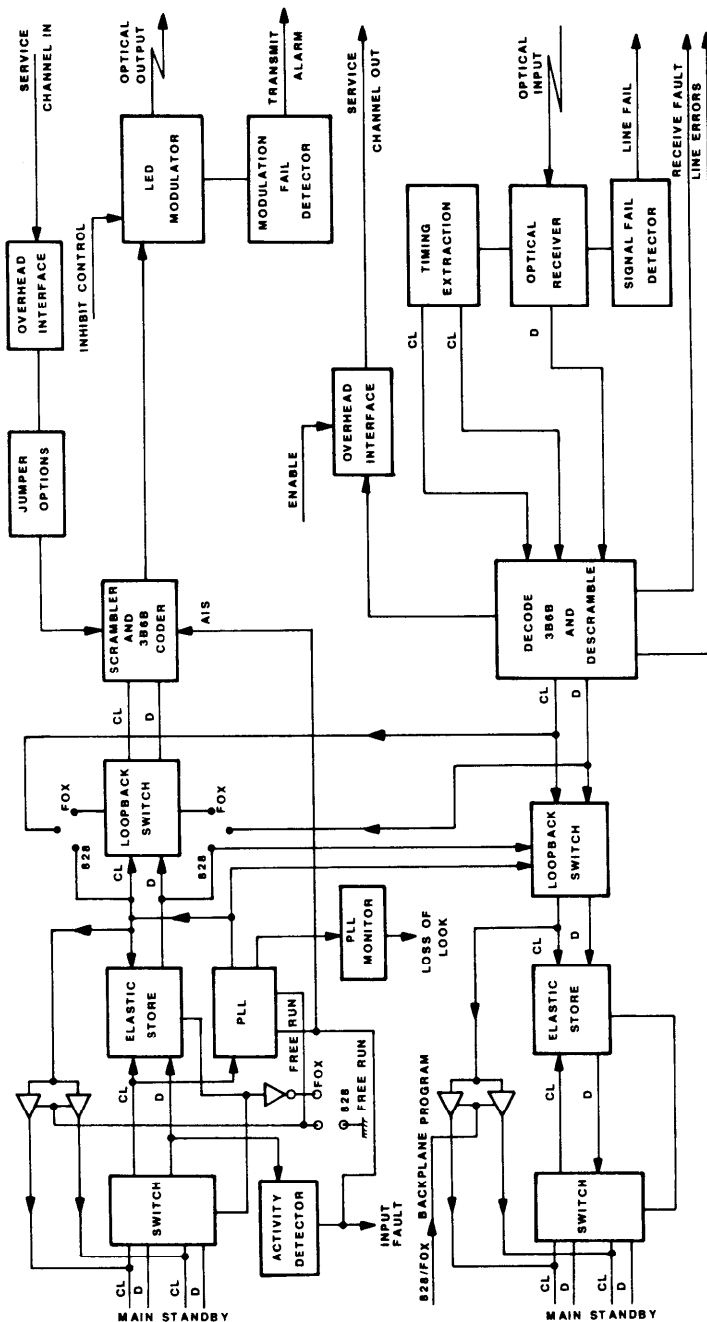

Figure 2. LTU Card CCA148G1/CCA149G1 Block Diagram
1.01 This subsection presents a functional description of the Light Transmission Units (LTU card), used in the FOX-2. See Figure 1 for views of the LTU card. Figure 2 contains a block diagram of the LTU card circuits. TABLE A describes the LEDs and Switches found on this card.